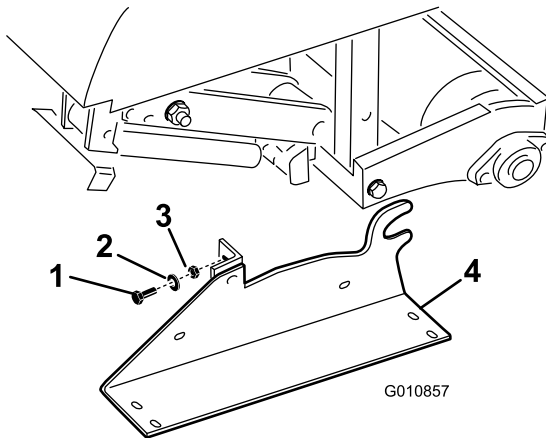

Figure 34
2. Remove the bolts, lock washers, and nuts securing the storage stands to each end of the aerator (Figure 34).